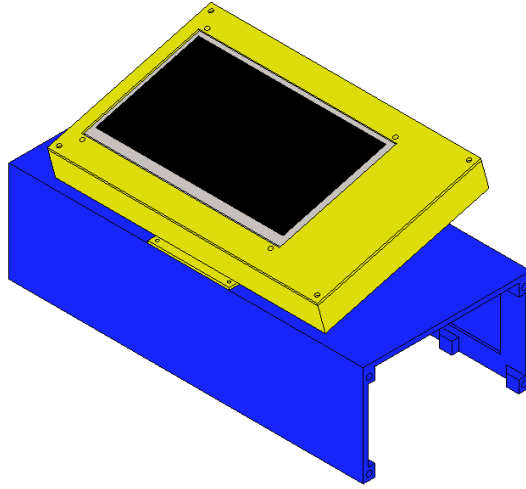

Figure 37: *Touchscreen lid* attached to the *electronics case* assembly.
7. Connect the USB power and HDMI cables into the touchscreen. Pass the cables through the center hole of the *touchscreen case* until it comes out inside the *electronics case*. Attach the *touchscreen lid* to the *touchscreen case* using four (4) M3 screws. The result of the assembly is shown on figure 37.